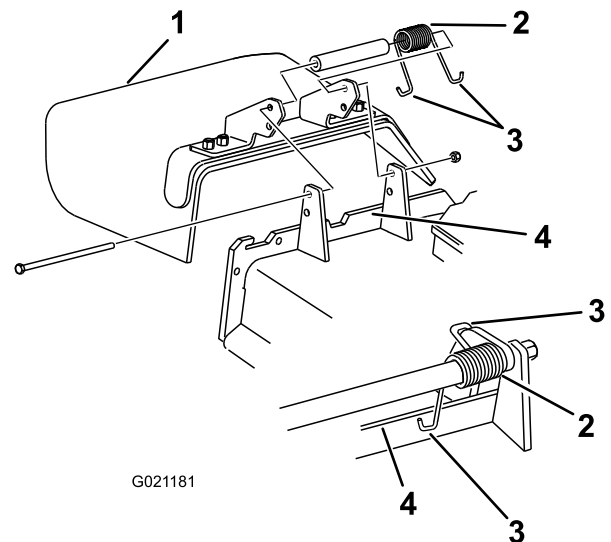

Figure 4
1. Make sure that one end of the spring is installed behind the deck edge before installing the bolt as shown in Figure 4.
2. Place the other end of the spring around grass deflector (Figure 4).